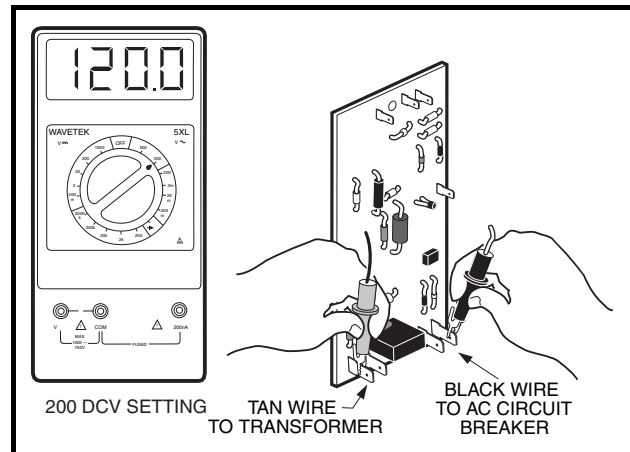

Figure 4-10 AC Circuit Test
3. Place black (–) probe of multimeter, set to 200 volts AC, onto terminal with black AC circuit breaker wire. Connect red (+) probe to terminal from which tan transformer wire was disconnected (**Figure 4-10, Page 4-12**).